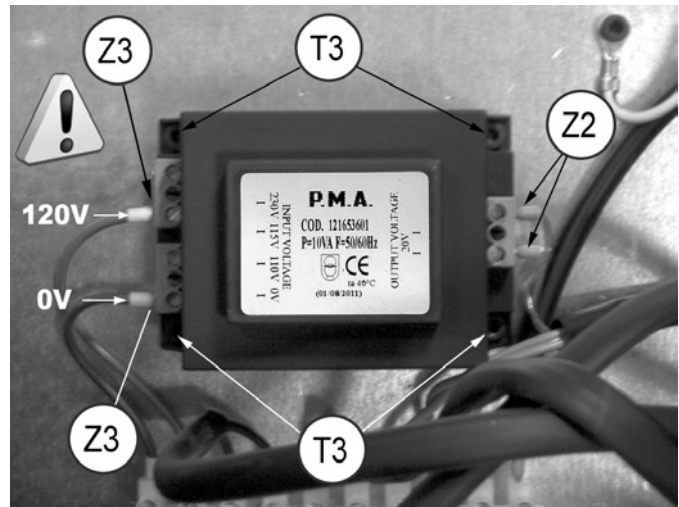

Fig. 55
- 3) Loosen the 2 screws (Z2) fixing the low voltage (transparent) cables (20V) (Fig. 55).
Take care that the position is correct according to the voltage (Fig. 55).